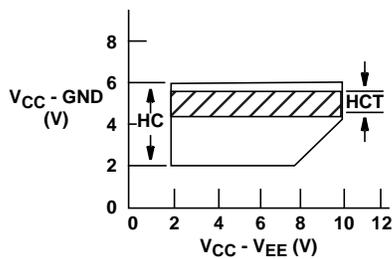

FIGURE 2.
In addition these devices contain logic-level translation circuits that provide for analog signal switching of voltages between  $\pm 5V$  via 5V logic. Each switch is turned on by a high-level voltage on its select input (S) when the common Enable (E) is Low. A High E disables all switches. The digital inputs can swing between  $V_{CC}$  and GND; the analog inputs/outputs can swing between  $V_{CC}$  as a positive limit and  $V_{EE}$  as a negative limit. Voltage ranges are shown in Figures 2 and 3.
HC, HCT Types (Figure 2) .....	.2V to 10V